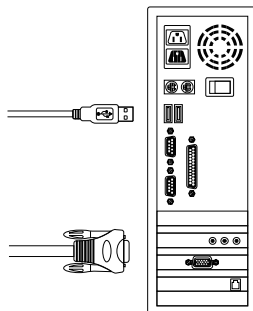

Figure 8. KVM-440 Front Panel
- C. Connect only USB and VGA connectors to computers. (Figure 8).